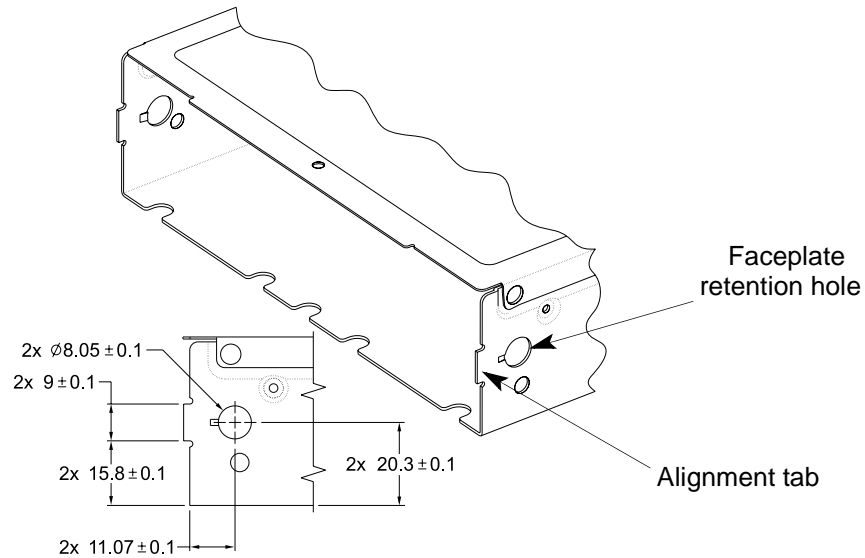

Figure 4-2 Dimensional locations of the faceplate features in millimeters (side view)
- The custom faceplate must be retained and located using the features shown in Figure 4-2. Use the $\phi 8.05$ mm holes for snap-in retention of the faceplate and the 9mm tabs to ensure proper location of the faceplate.